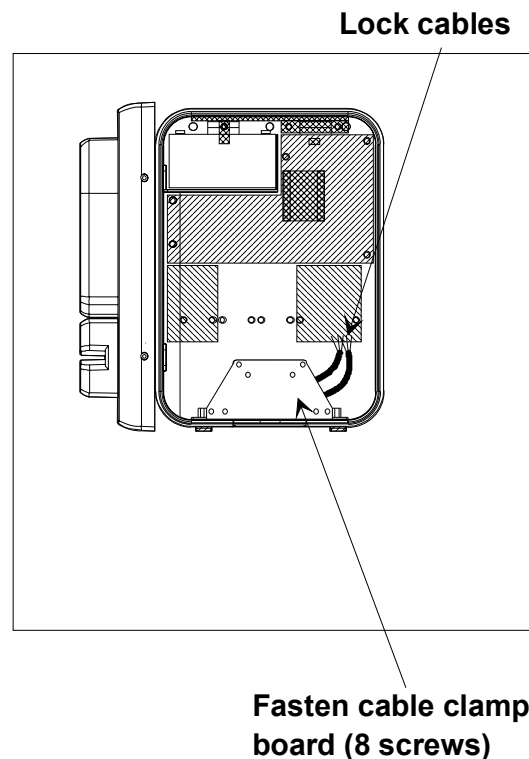

Figure 7. Connecting the Cables
1. Line up the cables with the grooves at the back of the terminal (see Figure 7) and screw in the small plate that serves as a cable clamp (use a \varnothing 5mm Philips head screwdriver).